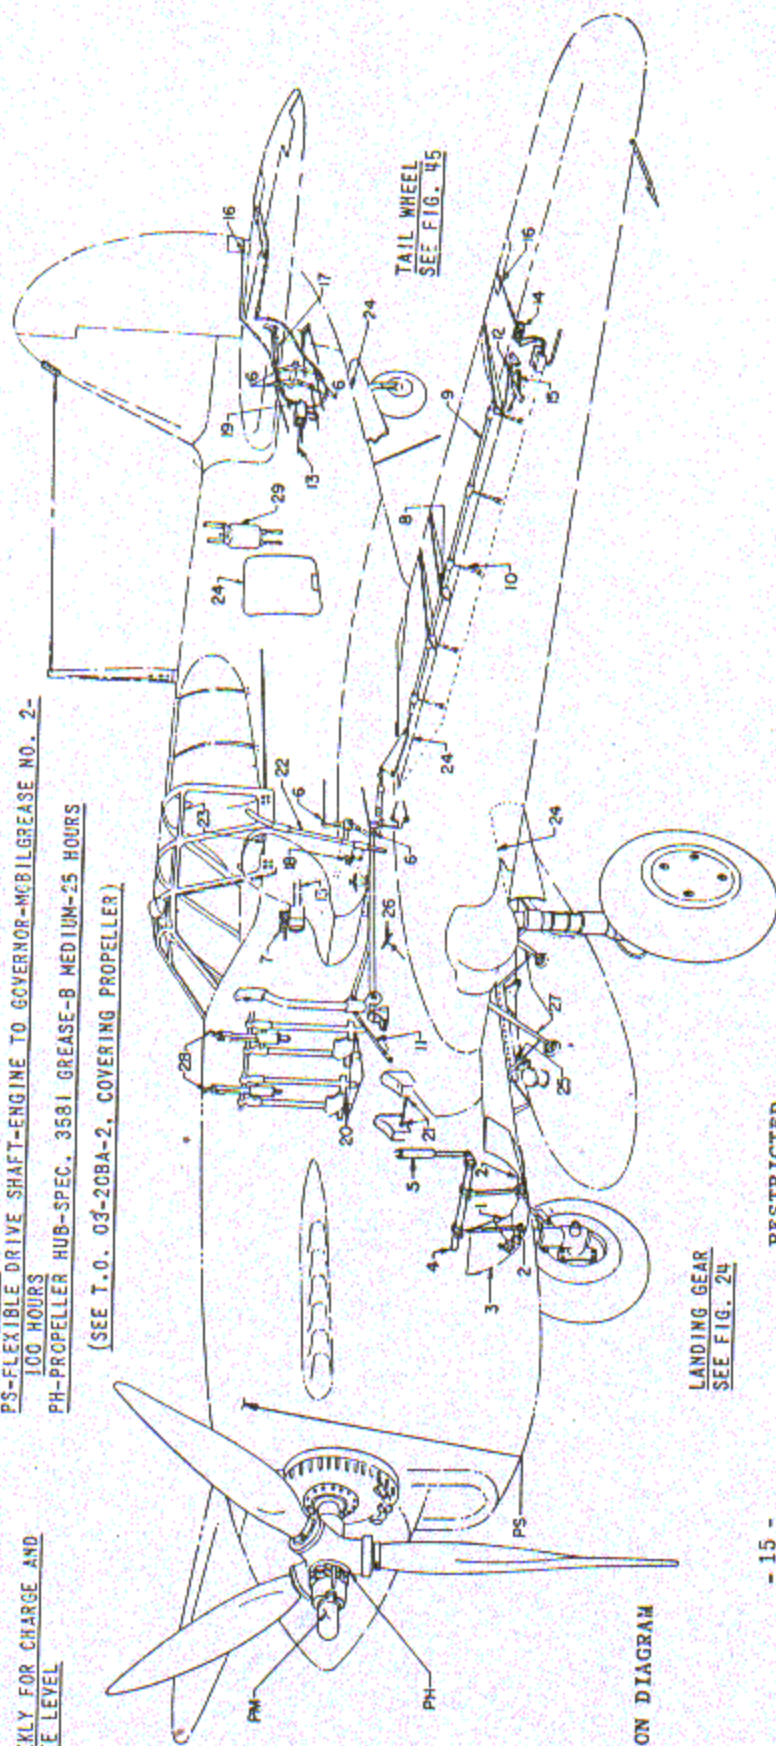

FIG. 8 - LUBRICATION DIAGRAM
b. The lubrication requirements are noted on Figures 8, 16 & 17. Refer also to T. O. No. 06-10-4.